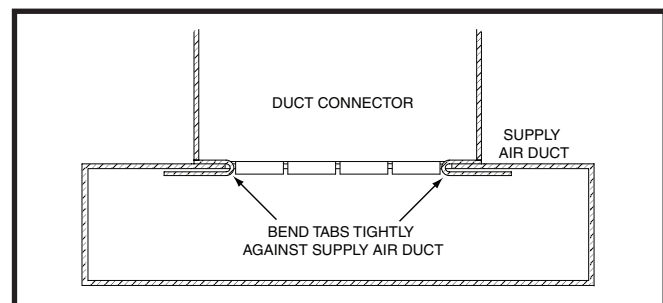

Figure 6. Duct Connector Tabs
- Bend the connector tabs on the bottom of the duct connector upwards and as tight as possible against the supply air duct. See Figure 6 \(page 7\).